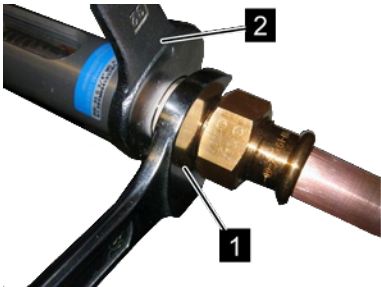

Fig. 11: Screw in the device
2. Fasten the adapter union of the pipeline with an appropriate spanner (Fig. 11/1). When doing so, lock the process connection of the device in place to prevent slip, using a suitable spanner (Fig. 11/2)